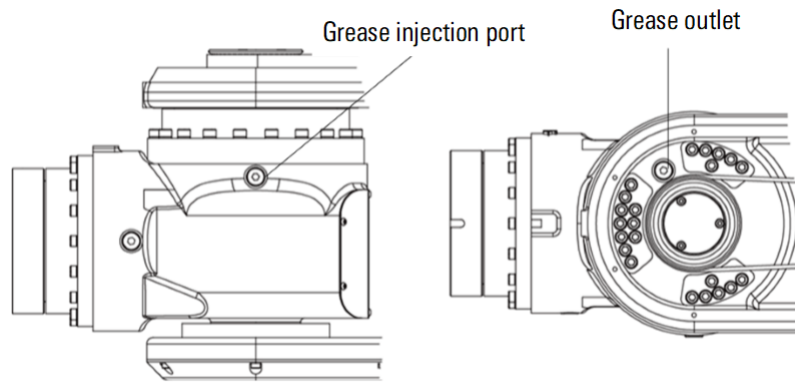

Figure 10-11 Replace the J5 axis reducer lubricating grease
- Step4. Remove the sealing screw of the grease injection port and the grease discharge port, as shown in Figure 10-11.